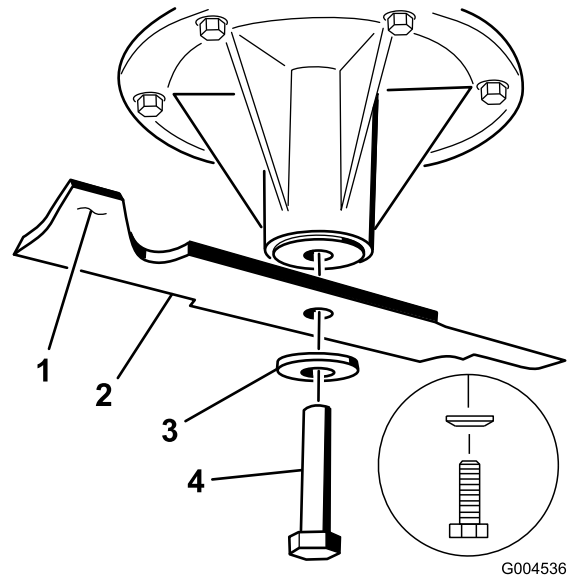

Figure 73
2. Remove the blade bolt, curved washer, and blade from the spindle shaft (Figure 73).
the end of the sail area only (Figure 73). Repeat this procedure until the blade is balanced.